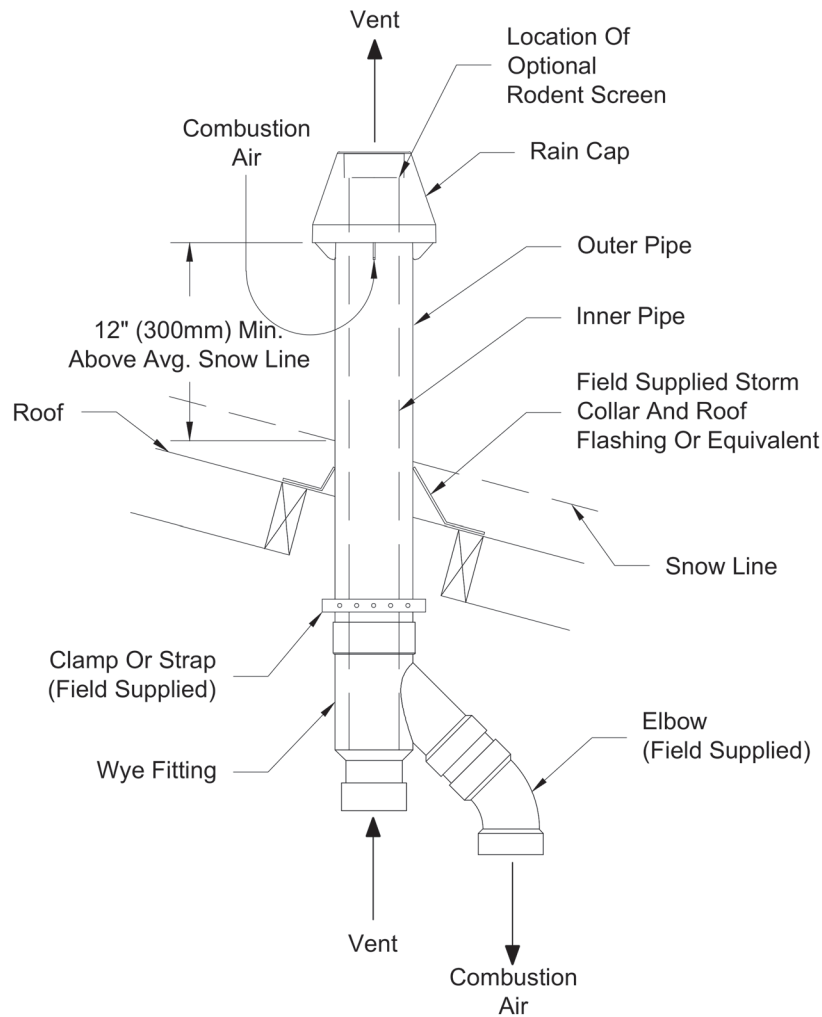

Figure 7.33: Installation of IPEX and Diversitech Concentric Terminal Through Roof
7. Installation of IPEX FGV or Diversitech CVENT Concentric Vent Terminal (Terminal Options D,E,I & J) - This terminal may be used for either horizontal or vertical venting. See Figure 7.32 for horizontal installation or Figure 7.33 for vertical installation. When PVC is used for venting the 30" CPVC straight section and CPVC elbow supplied must be used prior to connection of the vent system to this terminal. If the vent system is too short to permit this, use the IPEX FGV CPVC terminal: